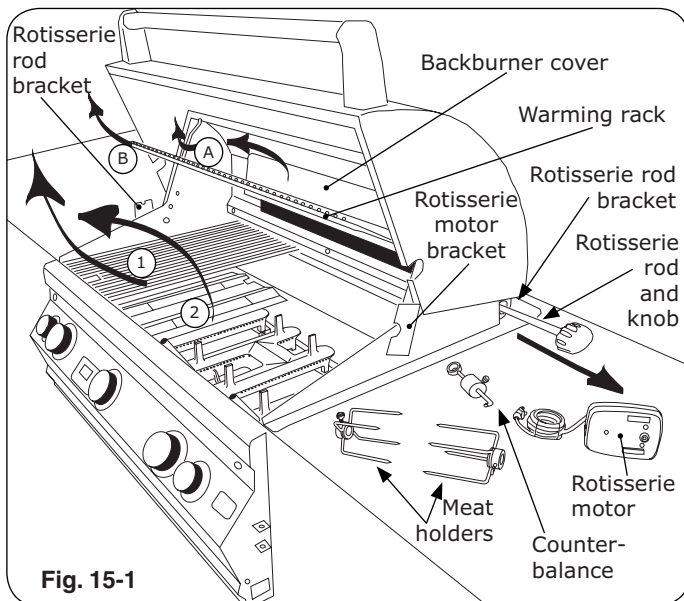

Fig. 15-1
3. Remove rotisserie rod from rear bracket (Fig. 15-1) attach knob if necessary.